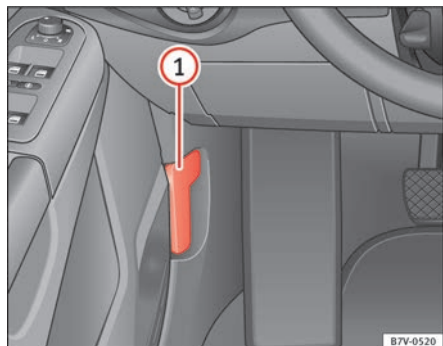

Fig. 166 In the footwell on the driver side: Lever for unlocking the bonnet.
- Before opening the bonnet, make sure that the windscreen wiper arms are in place against the windscreen ⇒ ①.
- Pull the release lever ⇒ fig. 166 in the direction of the arrow. The bonnet is released from the lock carrier by a spring mechanism ⇒ ⚠.